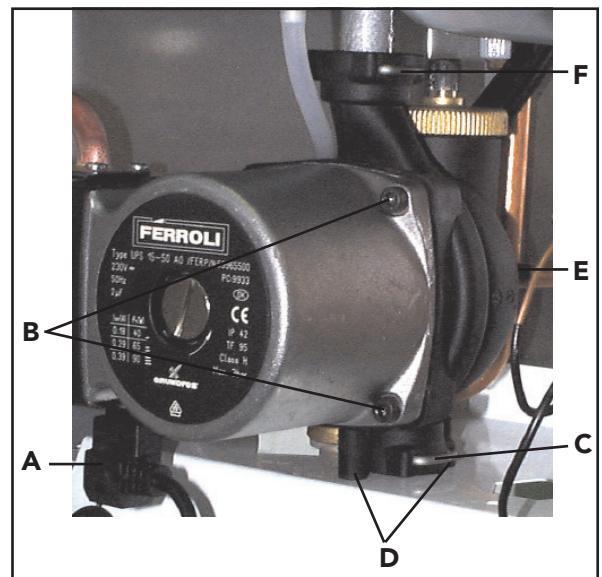

Fig. 29
**Pump (fig. 29)**
**Replacement of pump body (fig. 29)**